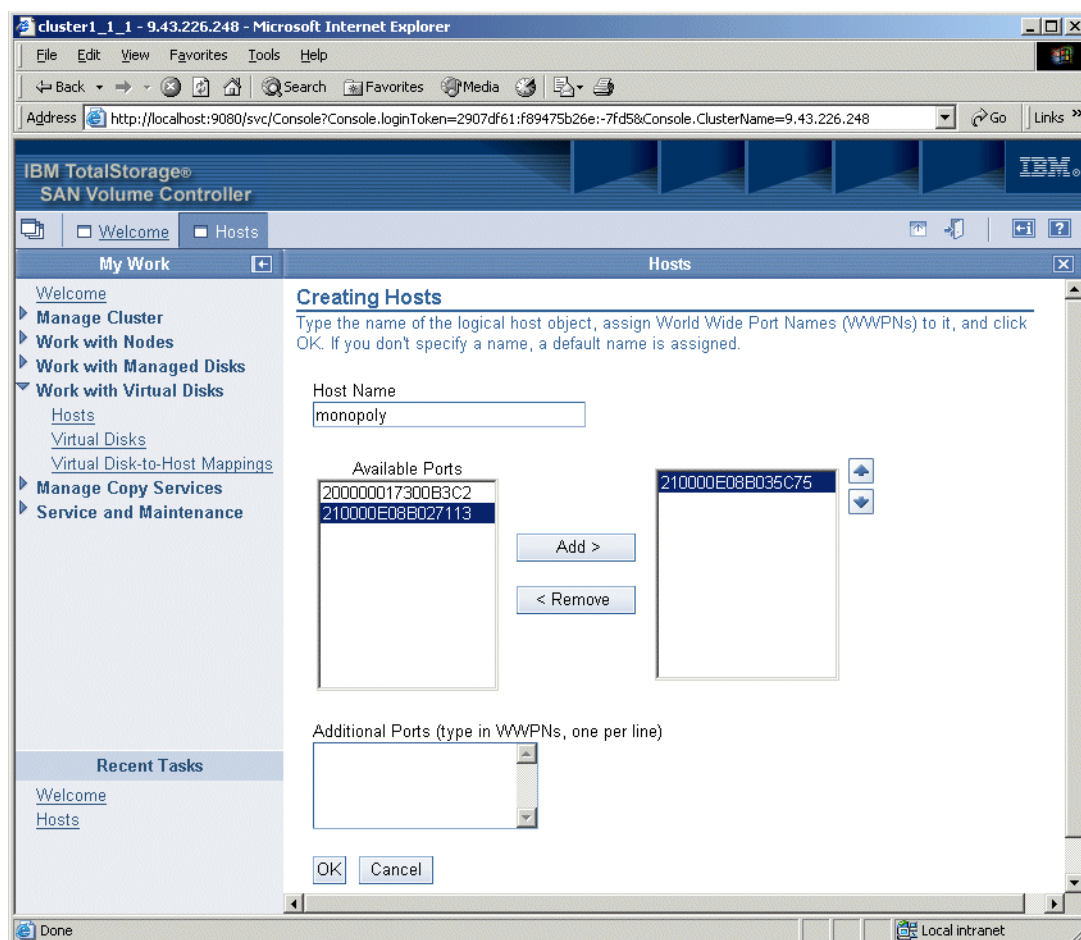

Figure 6-22 Creating Hosts panel
4. On the Creating Hosts panel (Figure 6-22), follow these steps: